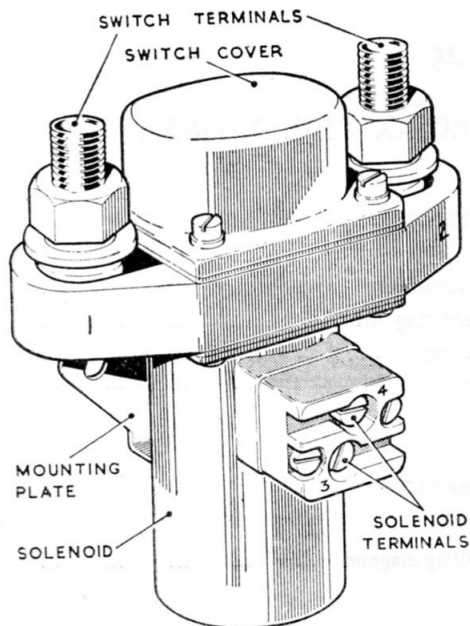

Fig. 1. General view of magnetic relay switch
2. The unit, fig. 1, comprises a solenoid assembly, a moving bridge contact assembly, and supply switch terminals 1 and 2; with two fixed contacts. The fixed contacts are integral with the supply switch terminals, and are secured to an insulated moulding. Secured to the switch body is a moulded cover, which provides access to the supply switch contacts for periodical inspection. A spring-loaded plunger, which is located in the centre of the solenoid, is mechanically linked to the moving bridge contacts. The moving contacts are designed to bridge the fixed contacts when a 28 volt supply is applied to the solenoid. A terminal block, which is secured to the solenoid casing, is provided for solenoid leads and 28 volt supply connections.